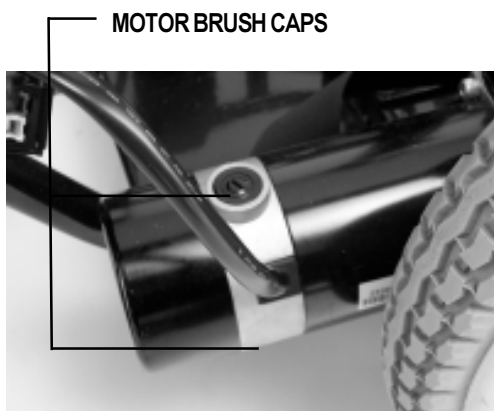

Figure 27. Motor
2. Unscrew the motor brush caps. See figure 27.